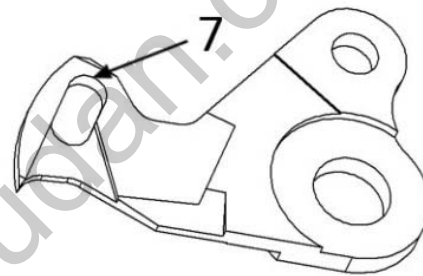

Fig. 27
- b) Set the position of fixed knife (1) so that its sharp edge is in distance of 8 mm from the center of the needle plate insert (2).
- c) Loosen the screw (4) and set the position of moving knife (3) so that the distance of knife sharp edge (7) is 1.5-2 mm from the sharp edge of fixed knife, Fig. 27.